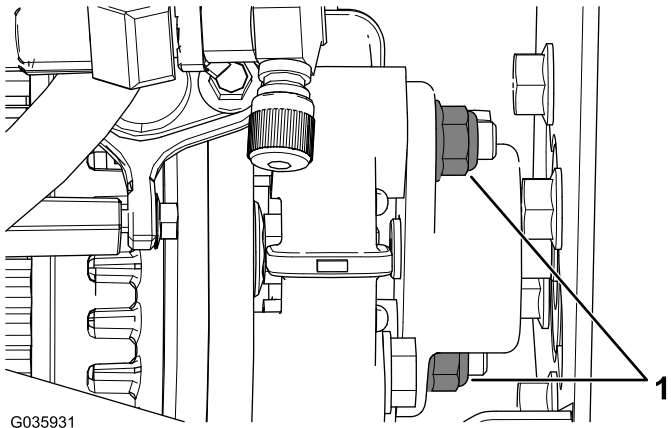

Figure 3
4. Remove the 2 flange nuts from the hydraulic-pump hub (Figure 3).